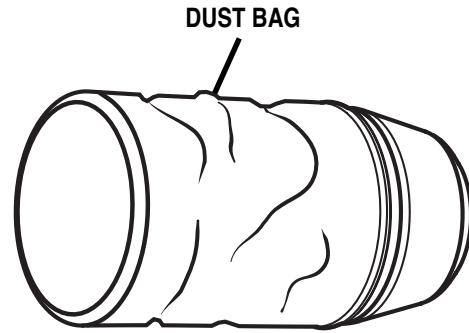

Fig. 8
See Figures 8 and 9.
- Remove dust bag from sander and shake out dust. See Figure 8.